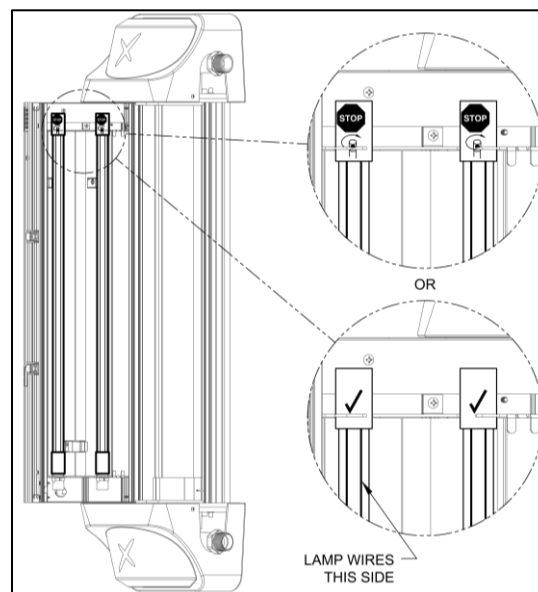

Figure 7-5
- Install the new lamps into the unit one at a time, being careful not to touch the bulb. Insert the top end of the lamp through the top lamp holder then swing lamp base in over the socket. For a LPHO lamp, rotate it until the “Stop Sign” symbol printed on the top ceramic is towards the left. See Figure 7.5. For an amalgam lamp, rotate it until the wires running down the lamp are facing the back of the unit – a check mark has been added to the top ceramic on same side as the wires. The proper orientation of the LPHO and amalgam lamp has the lamp wires opposite the UV sensors.